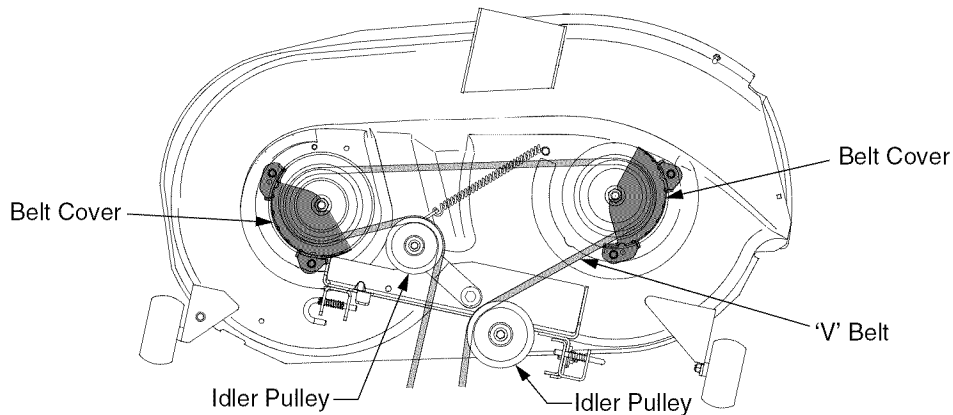

Figure 42
- Remove the hex tapping screws securing the belt covers to the deck and remove the belt from the spindle pulleys. Refer to Figure 42.